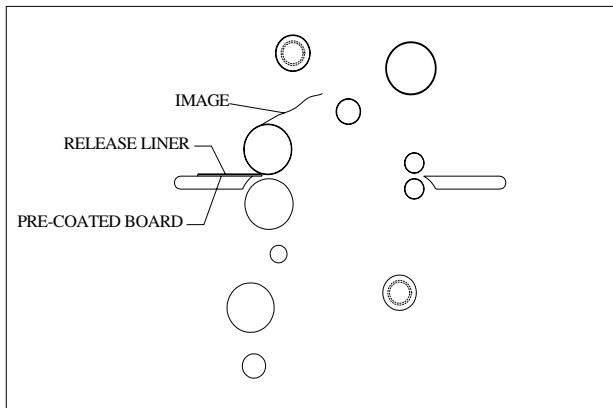

Figure 31
3. Do not stop once you have started the mounting process through the machine. (Fig. 31)
**Note:** This application can also be performed from the front operating position. Reference Fig. 31 for illustration.